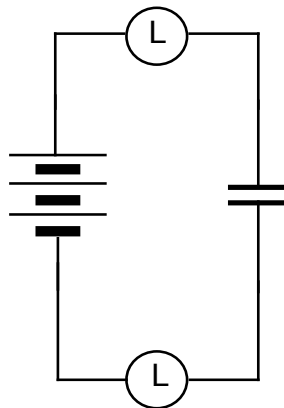

Figure 4.1b
2. Figure 4.1b shows the capacitor after it has been charged. Draw (+) signs by the plate that has gained charge, and (-) signs by the plate that has lost charge.